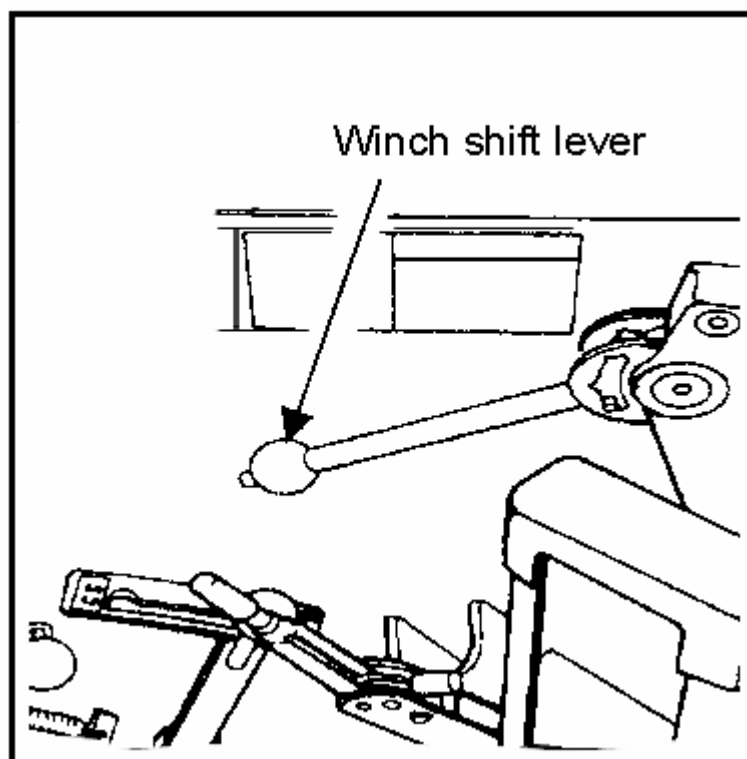

Figure 052-227-1103-1
3. Place the winch shift lever in the HIGH position (handle down) (Figure 052-227-1103-1).